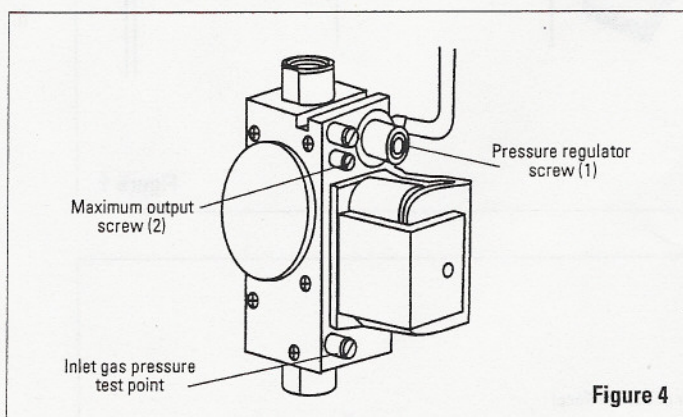

Figure 4
- g. Using an allen key, turn the pressure regulator screw (1), see Fig. 4 clockwise to increase CO₂ and anticlockwise to reduce CO₂ until the correct value given in table 2 is obtained.
- i. At the maximum outputs check that the CO₂ content of the exhaust flue gas is that stated in table 2. If not, adjust the maximum output screw (2) on the gas valve, see Fig. 4 using a suitable screwdriver until the CO₂ content is correct.* Then recheck the CO₂ content when the 'CH CAP' potentiometer is at minimum output. Repeat the previous procedures 'e to i' until the correct values are obtained.